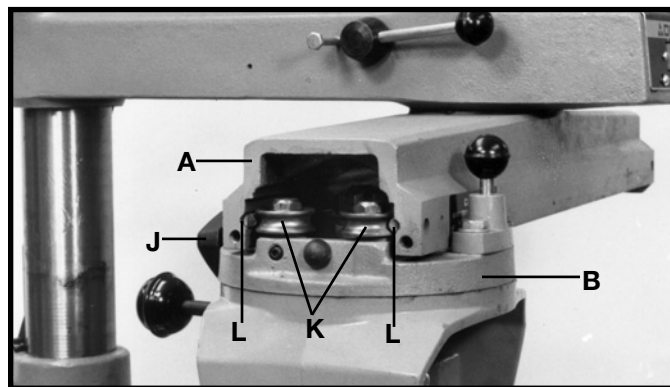

Fig. 11
7. Lift cuttinghead assembly (B) Fig. 11, and insert roller bearings (K) into track arm assembly (A) as shown. **NOTE:** Make certain the roller bearings (K) are riding on track rods (L). Push cuttinghead assembly (B) Fig. 11, into track arm assembly (A) and tighten cuttinghead clamp (J) Fig. 11.